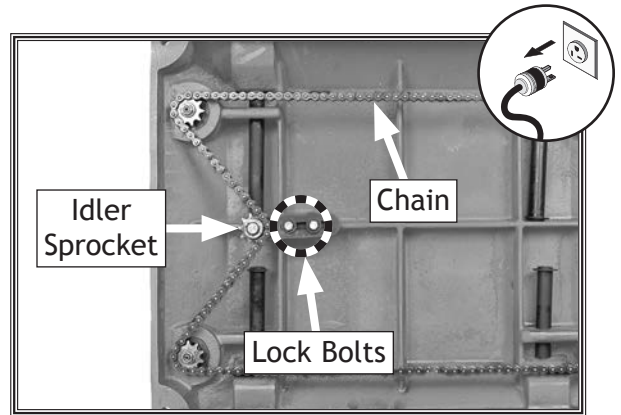

Figure 57. Table height chain adjustment (shown without stand for purpose of illustration).
2. Remove motor access panel to access table height chain shown in **Figure 57**.
3. Loosen the two chain tension lock bolts, then push idler sprocket against chain with moderate pressure to eliminate slack in chain. While maintaining pressure on idler sprocket, re-tighten lock bolts (see **Figure 57**).